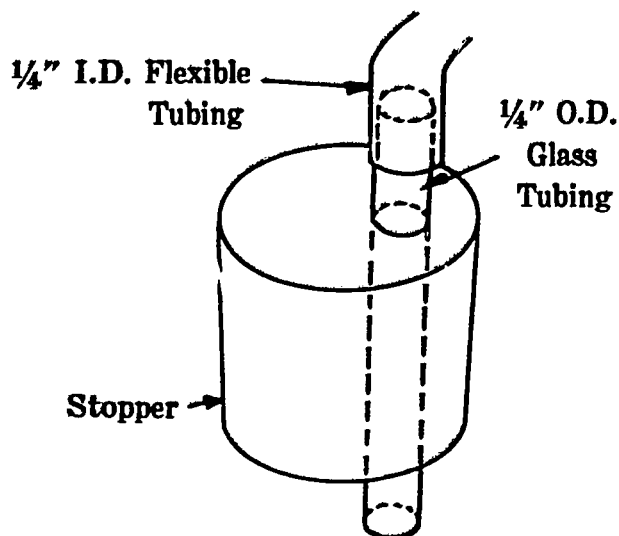

Fig. 49-3. Stopper and Tubing Assembled
4. Assemble the stopper, glass tubing, and flexible tubing as in Fig. 49-3, or check the coupling if the pieces are already assembled.